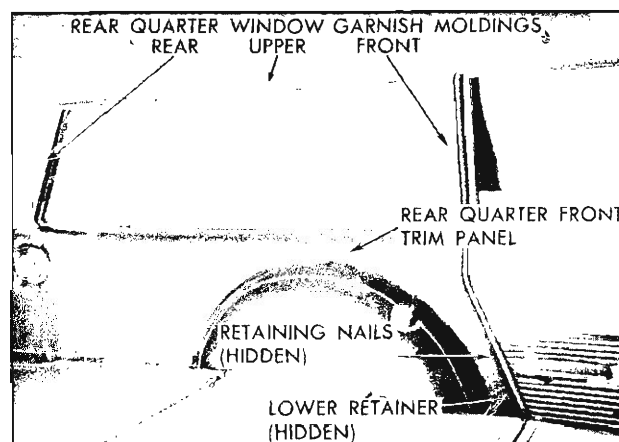

Fig. 70—Quarter Trim Assembly—Left Side
6. Lift panel upwards to disengage from quarter inner panel, and remove assembly from body (fig.70).
3. Lift panel slightly upward to disengage from quarter inner panel and rearward to disengage from rearward section of rear quarter front trim panel (fig. 70).